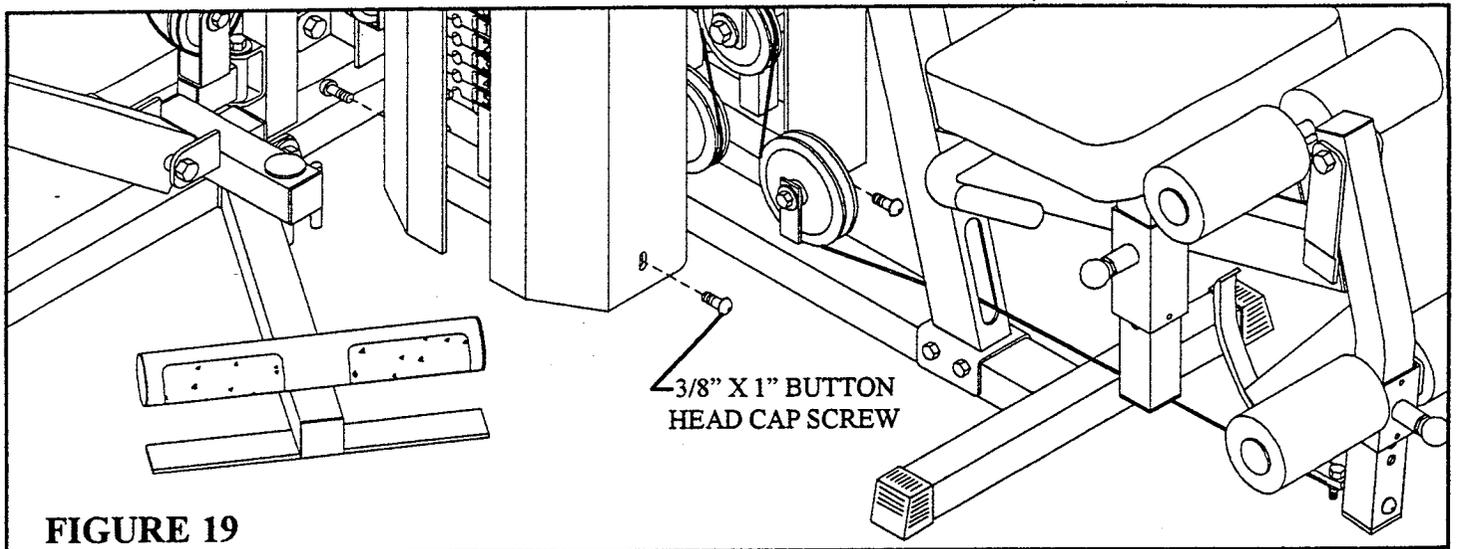

**FIGURE 18**
- **SECURELY** attach the four previously removed 3/8" X 1" BUTTON HEAD CAP SCREWS from the top of the front SHROUD & rear SHROUD. See FIGURE 18.